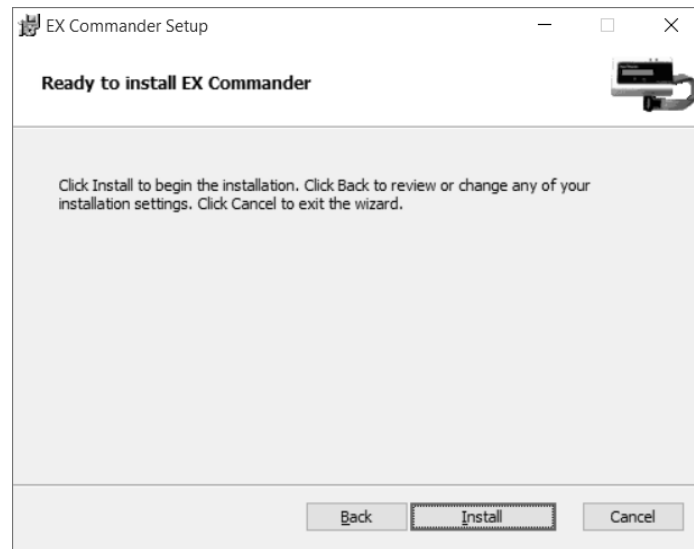

Figure 1.1.12 Start Installation
5. The dialog shown in Figure 1.1.12 appears. Click <Install>.